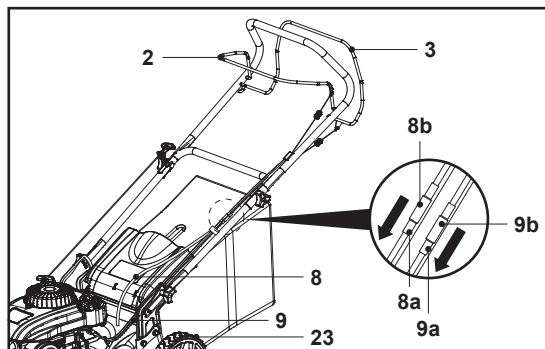

Fig. 29
If the rear wheels (23) do not rotate when operating the self-propelling lever (3), it may be necessary to adjust the tightness of the self-propelling wire (8) (Fig. 29).